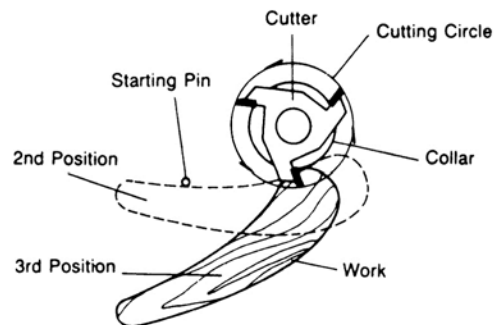

Figure 18
2. After the cut has been started, the work is swung free of the starting pin and rides only against the collar as shown in the third position in Figure 18. Always feed against the action of the cutter.